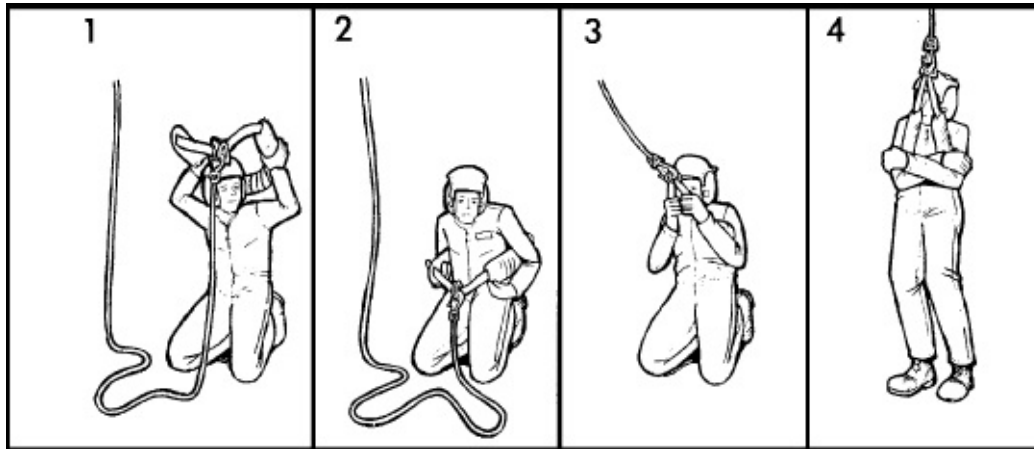

Figure 4-1. Rescue strap
- (1) Assume a non-threatening posture.
- (2) Secure weapons and avoid quick movement.
- (3) **DO NOT** approach recovery vehicle until instructed.
- (4) Beware of rotors/propellers when approaching recovery vehicle, especially on sloping or uneven terrain. Secure loose equipment that could be caught in rotors/propellers.
- d. For **hoist** recovery devices (**Figures 4-1 and 4-2**)—
- (1) Use eye protection, if available (glasses or helmet visor).
- (2) Allow metal on device to contact the surface before touching to avoid injury from static discharge.
- (3) Sit or kneel for stability while donning device.
- (4) Put safety strap under armpits.
- (5) Ensure cable is in front of you.
- (6) Keep hands clear of all hardware and connectors.
- (7) **DO NOT** become entangled in cable.